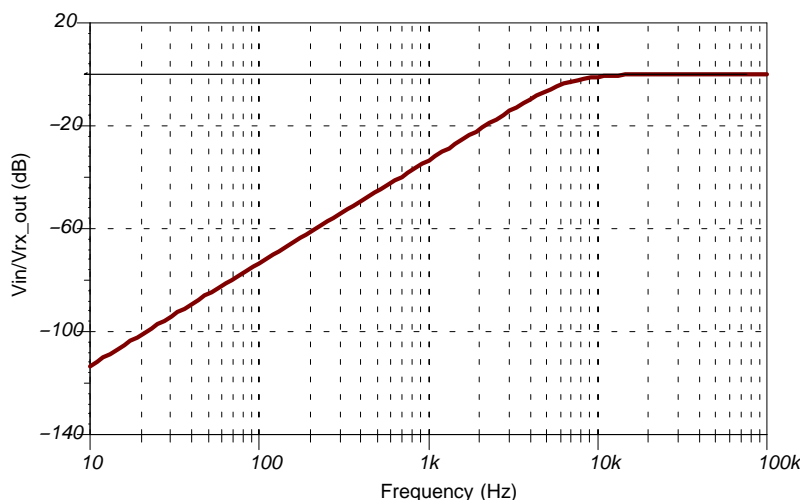

Figure 23. Transfer Function of the 50 Hz Suppression Circuit shown in Figure 18
74.5 kHz; the resulting frequency response is shown in Figure 23. With a good layout, suppressing the residual mains voltage (50 or 60 Hz) with 60 dB is feasible. To design a filter for other frequencies, consult the design manual.